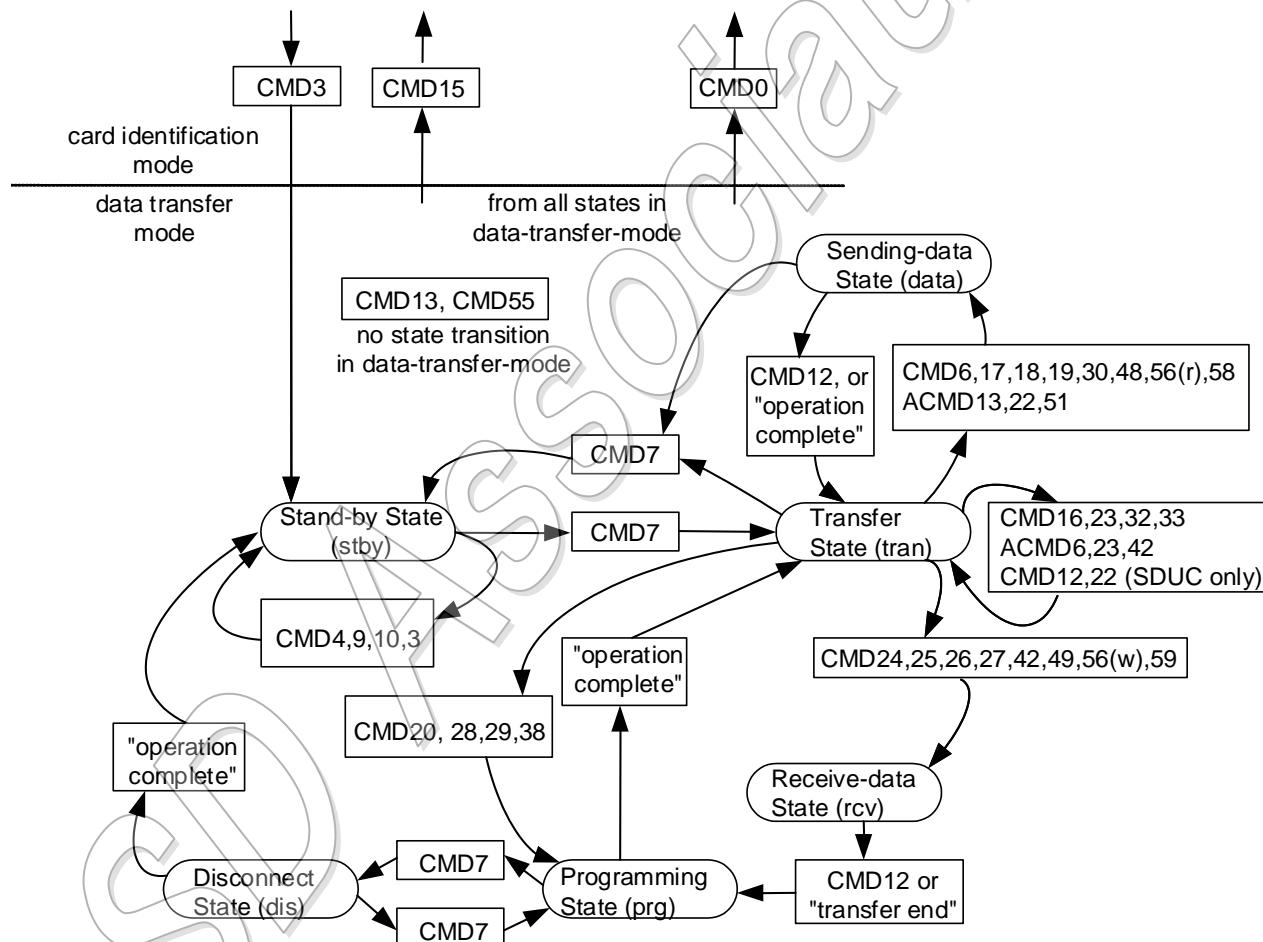

Figure 4-13 : SD Memory Card State Diagram (data transfer mode)
- All data read commands can be aborted any time by the stop command (CMD12). The data transfer will terminate and the card will return to the *Transfer State*. The read commands are such as block read (CMD17), multiple block read (CMD18), send write protect (CMD30), send SCR (ACMD51) and general command in read mode (CMD56). (Refer to Figure 4-13 for more details.)
- All data write commands can be aborted any time by the stop command (CMD12). The write commands shall be stopped prior to deselecting the card by CMD7. The write commands are such as block write (CMD24 and CMD25), program CSD (CMD27), lock/unlock command (CMD42) and general command in write mode (CMD56). (Refer to Figure 4-13 for more details.)
If all write buffers are full, and as long as the card is in *Programming State* (see SD Memory Card state diagram Figure 4-13 ), the DAT0 line will be kept low (BUSY).